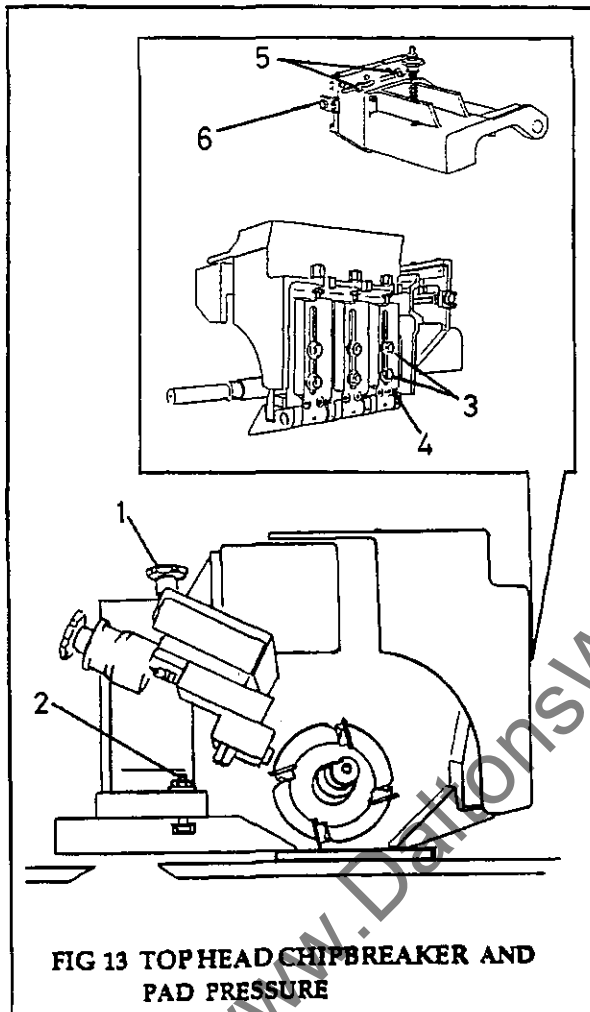

FIG 13 TOP HEAD CHIPBREAKER AND PAD PRESSURE
**Top Head Chipbreaker and pad Pressure** (Fig 13)
- (1) Ensure bed is clean and cutterblock has been set up.
- (2) Place straight edge under pad pressure and adjust its height by screw (1) until in line with the base cutting circle of the cutterblock.
- (3) Slacken off pad pressure locking nuts (2) and laterally position the pad nose 5mm clear of the maximum cutting circle. Also position pad width wise to suit timber.
- (4) Retighten nuts (2)